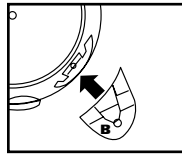

FIGURE 10
9. Take caster foot marked with the letter **B** and place into slot on right side of tank, also marked with the letter **B**. **FIGURE 10.**